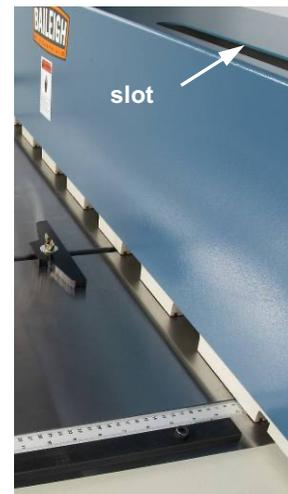

Figure 10-1
- If you have a scribed line, use the slot indicated in (fig. 10-1) to sight the line to the edge of the blade.